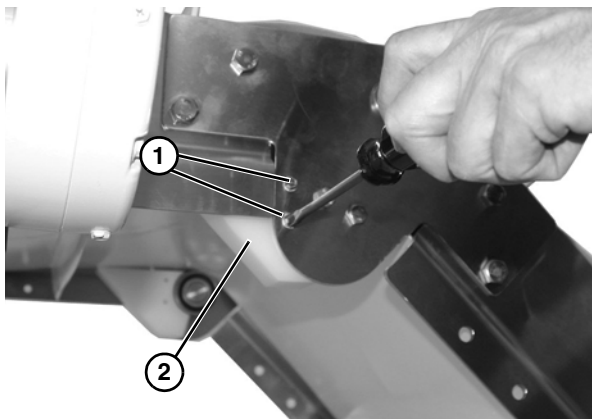

Figure 58
- Remove two flat head screws (**Figure 58, item 1**), on upper knuckle assembly, and remove roller guide (**Figure 58, item 2**). Repeat on opposite side.